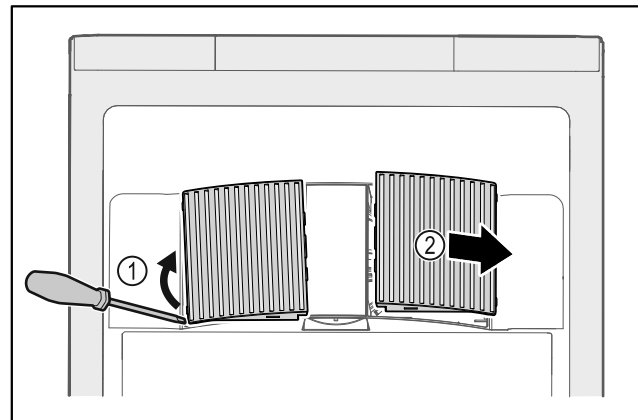

Fig. 239
- ▶ Carefully lever out fan covers from the side Fig. 239 (1) and remove towards the front Fig. 239 (2).